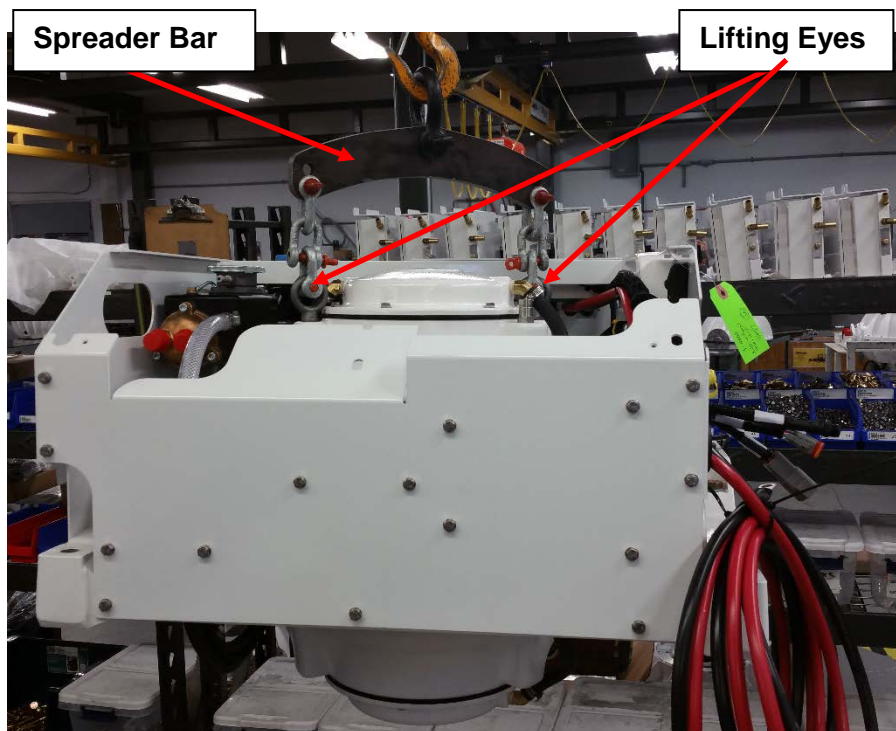

FIGURE 4 – LIFTING ARRANGEMENT
- 4) Attach a spreader bar (Seakeeper #80283) to the two lifting eyes located on the top of the Seakeeper enclosure. Stay clear of any other parts on the Seakeeper. The Seakeeper 3 weighs 249 kg (550 lbs). See Figure 4 below.